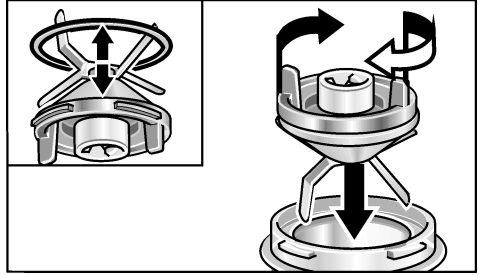

Figure 11
2. To assemble or reassemble blade/base assembly into the blender, insert the blade/base assembly into the blender jar and press down on the blade/base assembly. Turn clockwise to the stop, see figure 11.